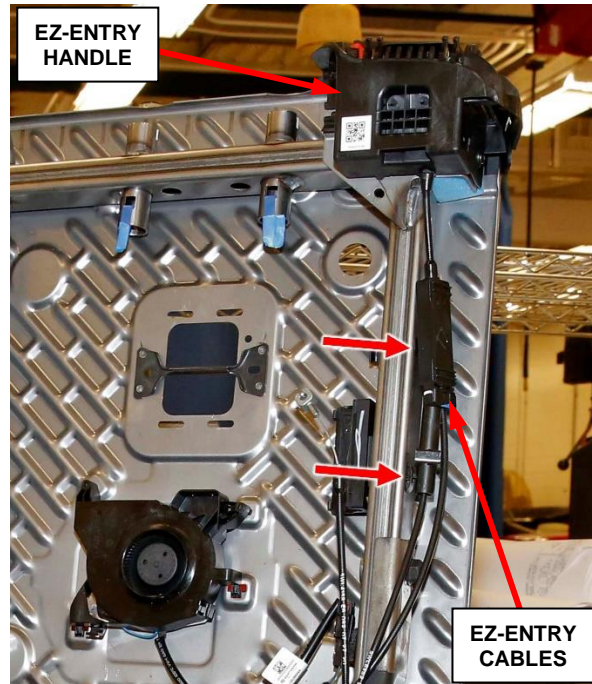

Figure 63 – EZ-Entry Cable Retainers
33. Release the push pin retainers to remove the EZ-Entry handle release cables and junction box from the seat back frame sidemember (do not open the junction box or disconnect the cables) (Figure 63).
48. Install the EZ-Entry handle release cable and junction box retainers to the seat back frame sidemember (Figure 63).